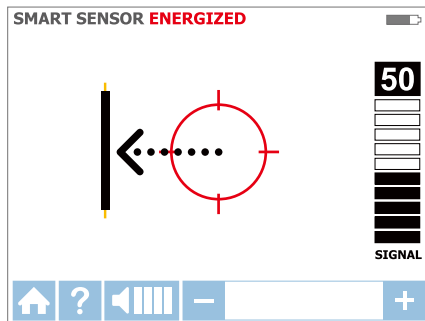

Figure 3.1e: Wire is to the left
4. Move the Receiver in direction indicated by the arrow on the screen (Figure 3.1e).